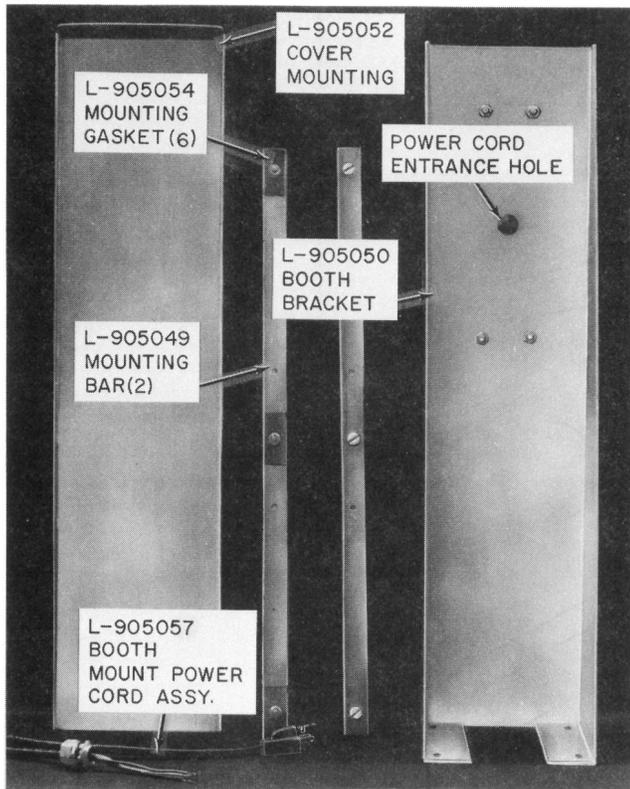

Fig. 33—KS-20135, List 16 Sign Mounting
- (h) Place booth mounting power cord assembly through entrance hole in booth bracket (Fig. 33).
- (i) Connect (BK) and (W) leads to lamp base and (G) lead to electrical outlet box. Close hinged side of sign.